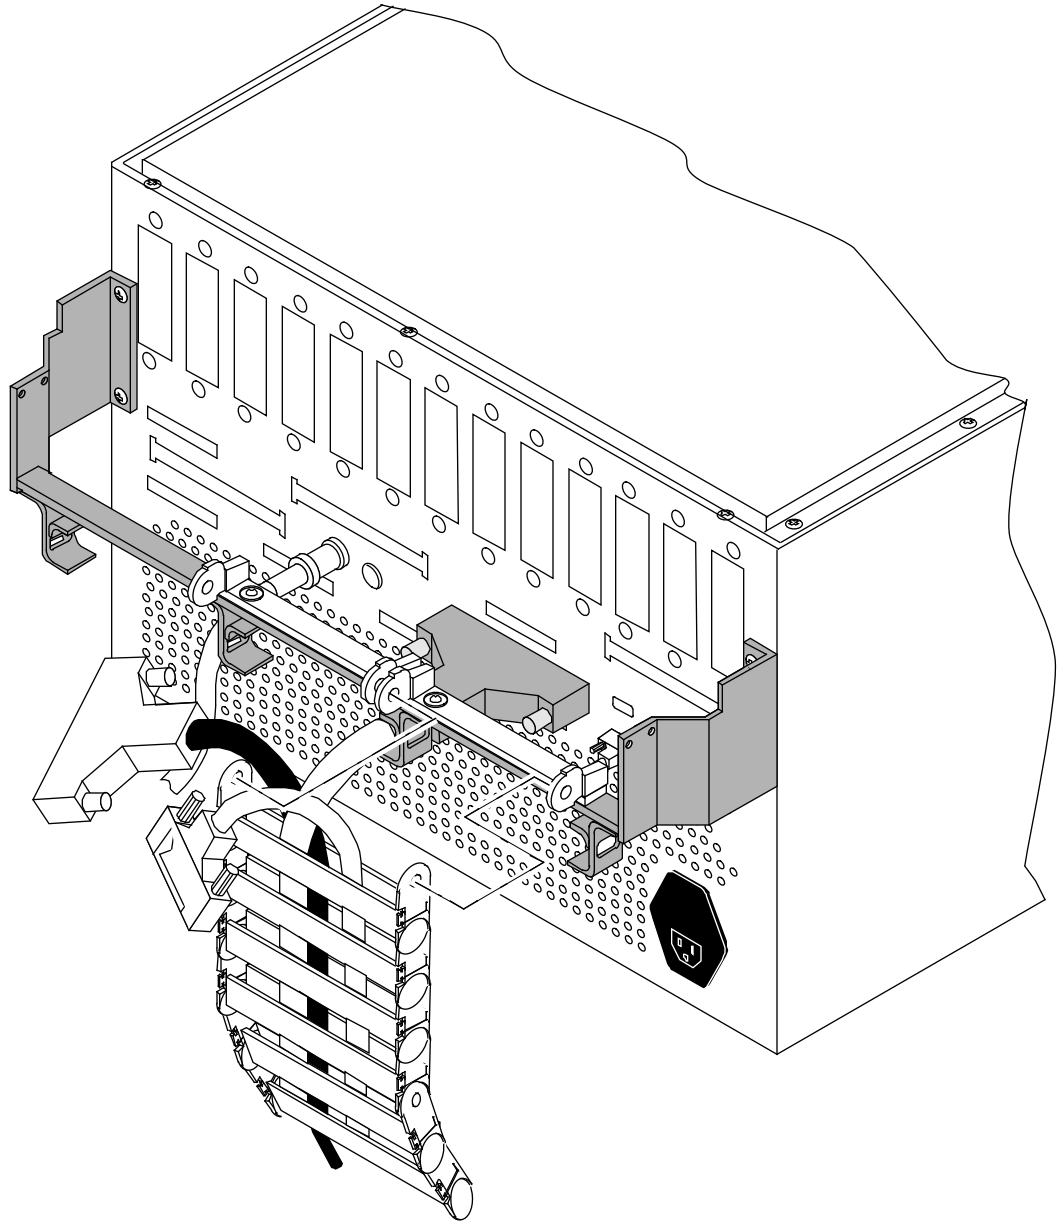

Figure 6. Flexible Cable Way
2. Disconnect the flexible cable ways by removing the two screws that secure them to the VME tray. Refer to Figure 6.
6. Reconnect the flexible cable way using the two screws originally removed from the flexible cable-way bar. Refer to Figure 6.